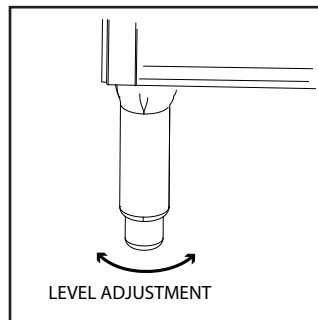

Fig. 1 - Leg Adjustment
3. Adjust dishwasher and loader/unloader height and level with their adjustable legs, (see Fig. 1).